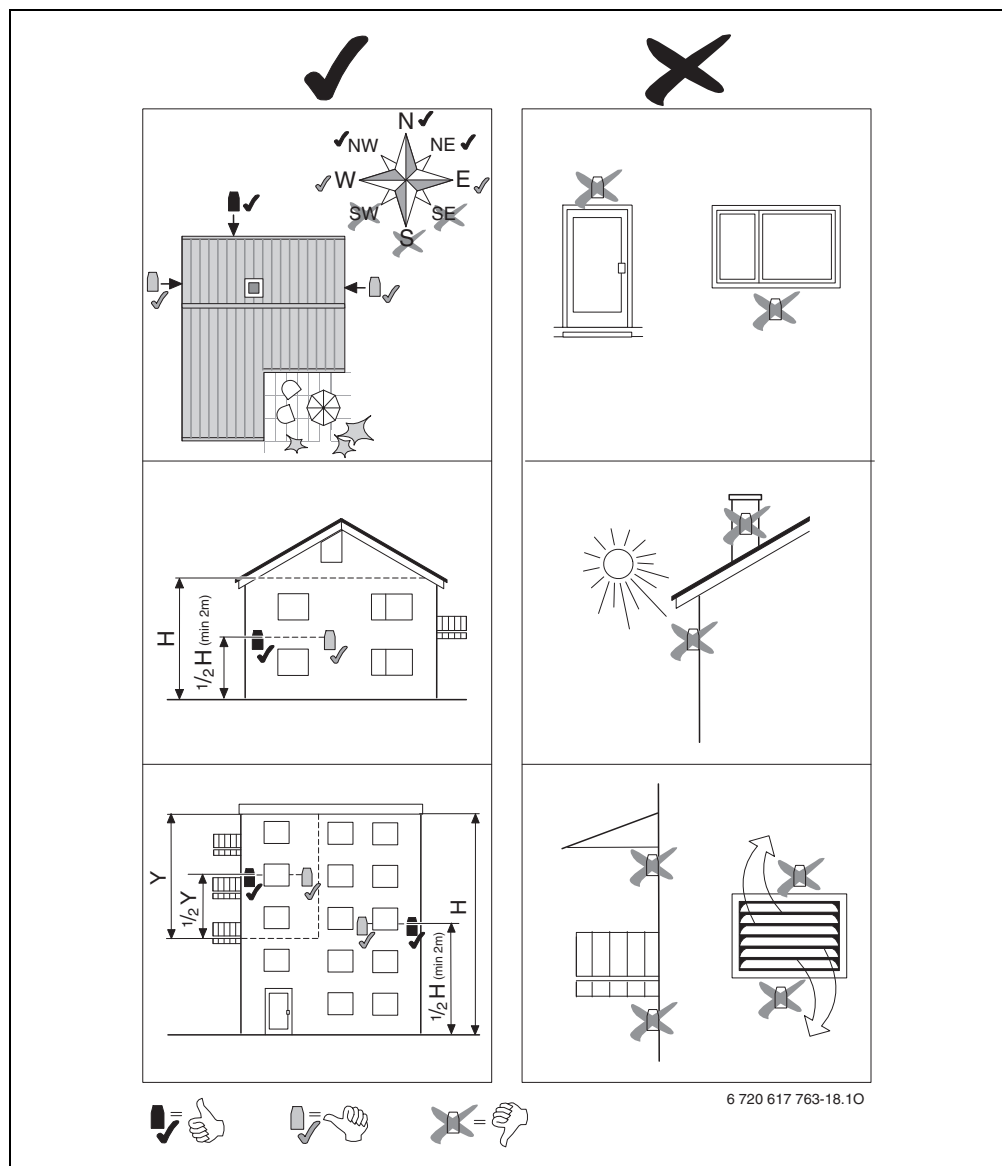

Fig. 12
- Select installation location (→ Fig. 12).